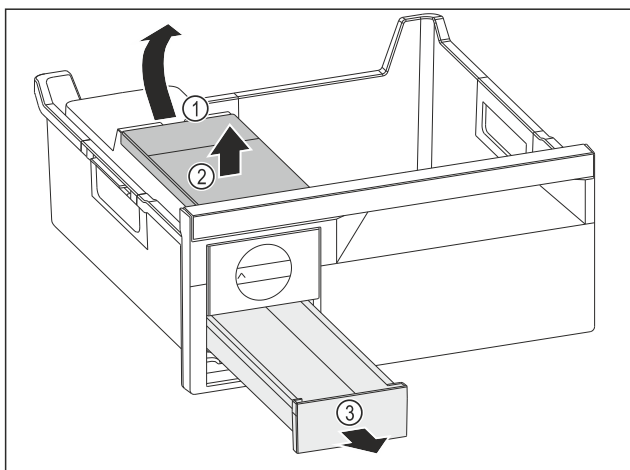

Fig. 116
- ▶ Removing the water tank: Lift the water tank by the recess Fig. 116 (1).
- ▶ Remove the water tank Fig. 116 (2) upwards.
- ▶ Remove the ice cube drawer Fig. 116 (3) to the front.